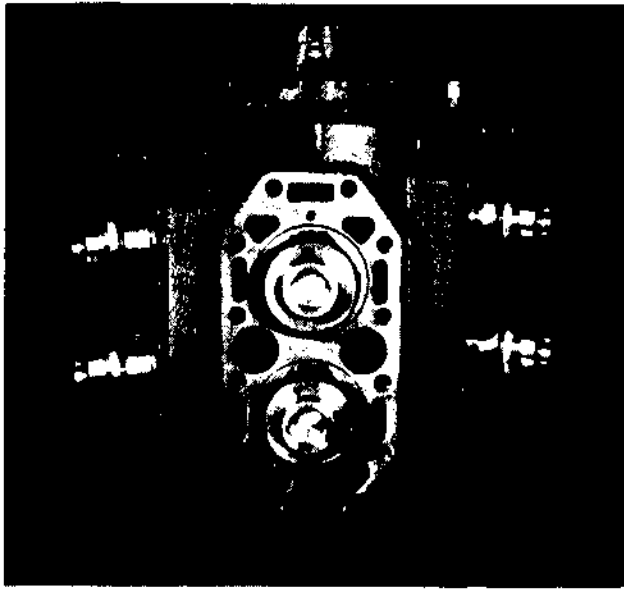
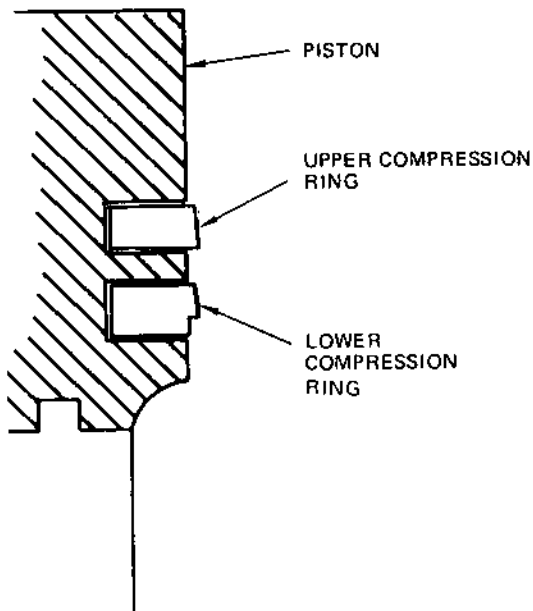

Figure 67
Figure 79
To provide clearance when removing the crankshaft, the connecting rod and piston assemblies must be pushed back into the cylinders after removing the connecting rod caps (Figure 67).
1. With the piston as shown in Figure 67, work the piston rings off the pistons (Figure 73).
2. With the pistons protruding out of the cylinder openings, install the piston rings (Figure 67). When replacing piston rings, replace them as a set. A set is for one piston and consists of two compression rings - an upper ring and a lower ring (Figure 79). Both the upper and lower rings are marked "top" for proper positioning on the piston.